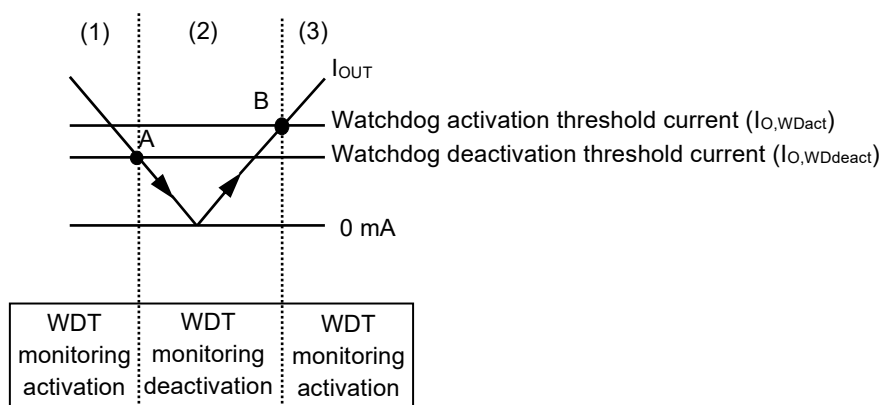

**Figure 27 Operation of Output Current Detection Circuit**
**Figure 27** shows a block diagram which includes an output current detection circuit. If the regulator is connected to a microcontroller, the microcontroller operation current can be detected using the regulator output current. For example, if the microcontroller sleep operation current is lower than the watchdog deactivation threshold current ( $I_{O,WDdeact}$ ), the watchdog timer autonomously deactivates monitoring operation when the microcontroller sleeps. If the VIN pin voltage drops below the output current detection circuit minimum operation voltage, the output current detection circuit stops the operation. Refer to "■ Recommended Operation Conditions" for VIN pin voltage range.